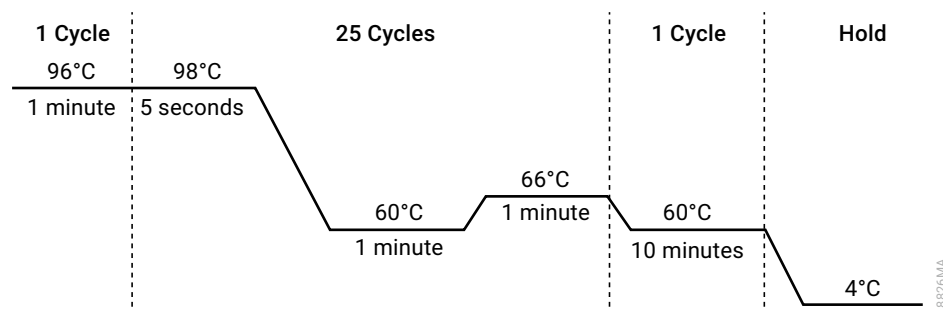

Figure 27. Thermal cycling protocol for ProFlex® PCR System.
2. Select and run the protocol provided below and in Figure 27. The total cycling time is approximately 75 minutes.